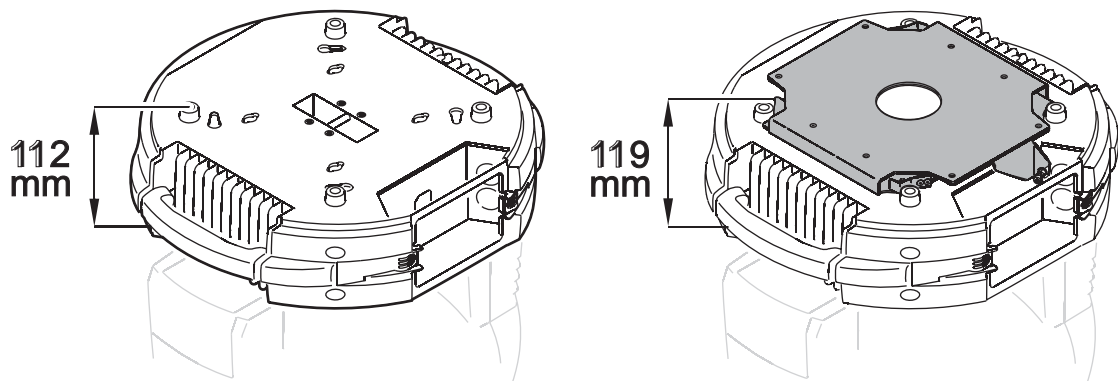

Figure 7: Quick-release bracket dimensions
8. See Figure 7. The quick-release bracket adds 7 mm (0.3 in.) to the overall height of the fixture.